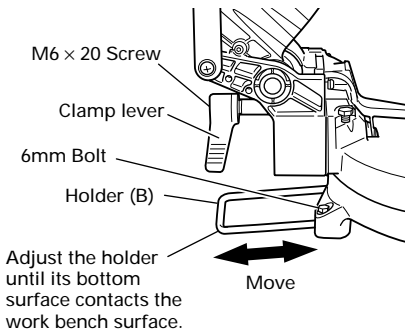

Fig. 6
3. **Holder (B), clamp lever adjustment: (Fig. 6)**
Attach the included holder (B) in the position as shown in Fig. 6 and adjust the holder (B) until its bottom surface contacts the work bench surface. After adjustments, securely tighten the 6mm bolt with the included 10mm box wrench. Loosen the M6 × 20 screw on the clamp lever and attach to a position where the clamp lever can be easily operated.